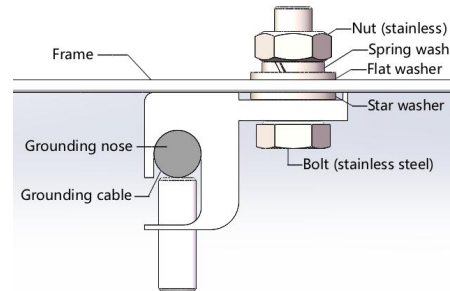

Figure 21 Schematic diagram for installation of connecting lug fastened by bolt
- When connected in parallel, the output current of the whole string of modules is equal to the sum of the current of each branch module or module string (the parallel connection mode is shown in Figure 21). Each string of modules shall be equipped with a fuse. The reference formula for the maximum number of modules in parallel connection: maximum protective current/($1.25 \times$ short-circuit current). Please refer to the national or regional or local specifications for details.